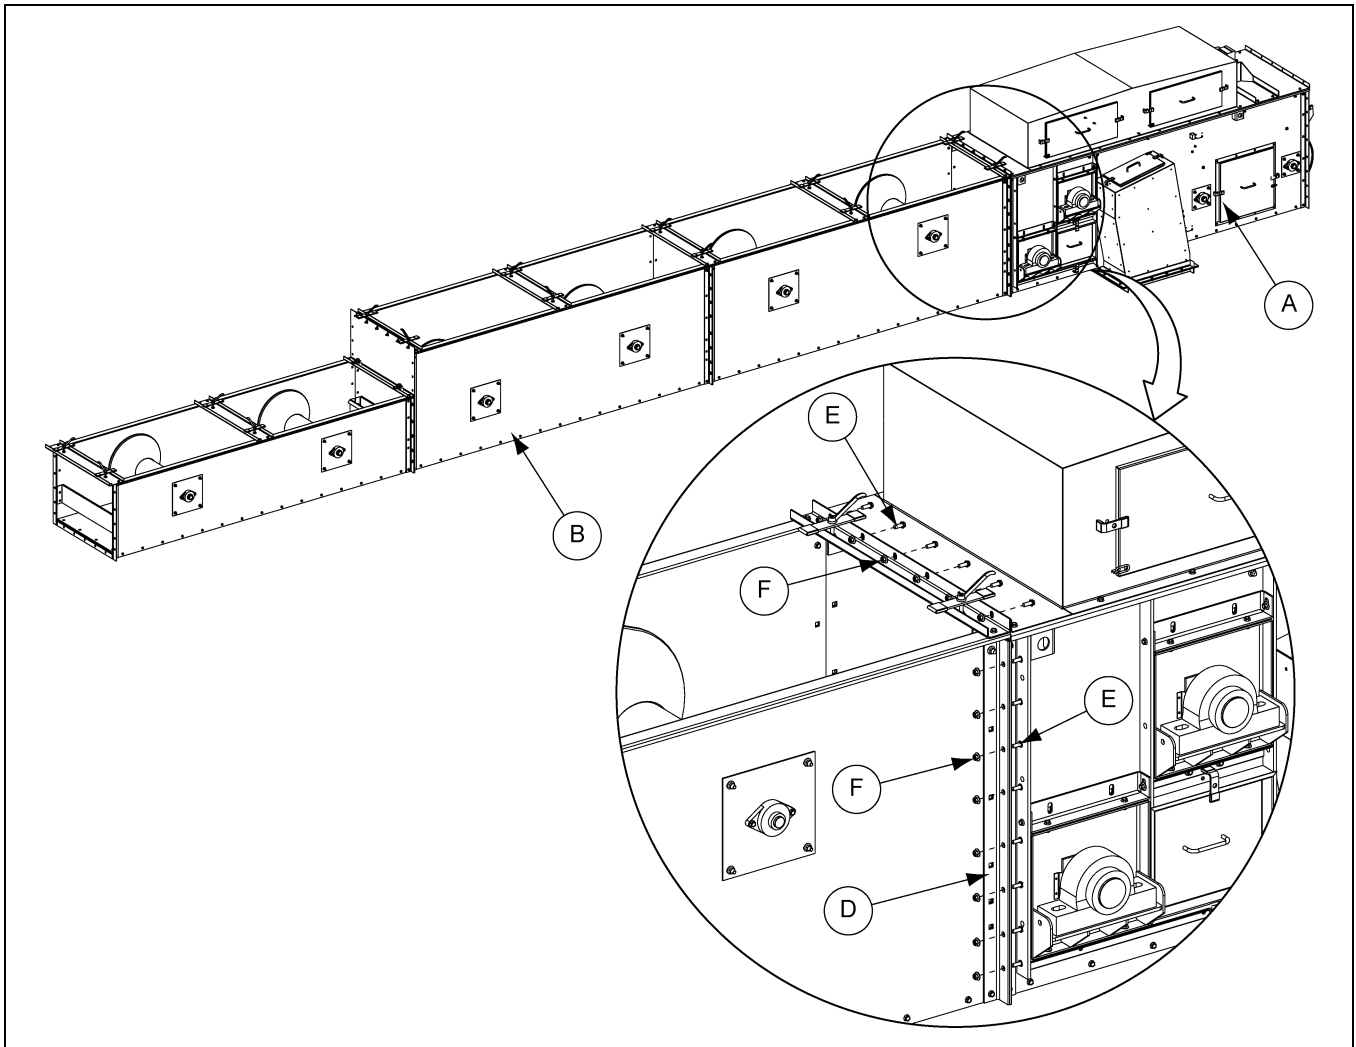

Figure 3E
2. Make sure the flanges (D) of trunking section (B) and tripper assembly (A) are aligned. Caulk the flanges (D) and tighten all hardware (E and F) on the trough section. (See Figure 3E.)